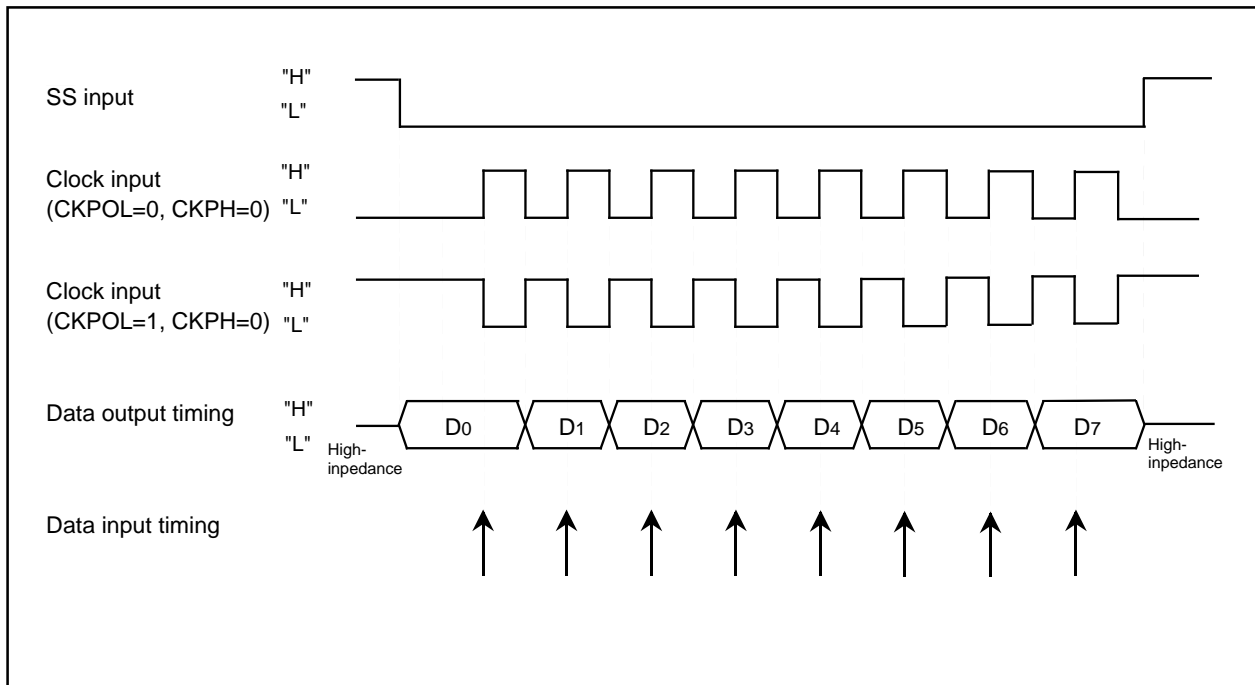

Figure 1.20.9. The transmission and reception timing (CKPH=1) in slave mode (external clock)
- With "1" for bit 1 (CKPH) of UARTi special mode register 3 (addresses 0325₁₆ and 02F5₁₆ [i = 3 or 4]), when an SSi input pin is H level, output data is high impedance. When an SSi input pin is L level, the first data is output. After that, serial transmission is synchronized with the clock. Figure 1.20.9 shows the timing.